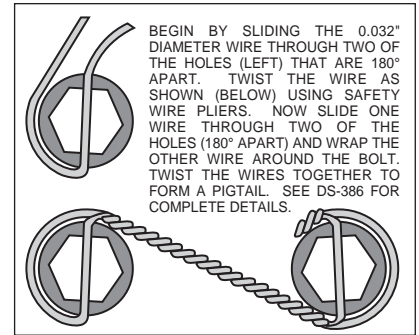

Figure 4. Safety Wire Diagram
- With the mounting ears pointing towards the rear of the vehicle, install the caliper mounting bracket (1) to the housing flange using the bolts and nuts supplied with the C-clip eliminator kit. Apply red *Loctite*® 271 to the bolt threads and torque to OEM specifications. **NOTE:** The caliper mounting brackets (1) should be located between the axle housing flange and the inner C-clip hub. Make sure the heads of the caliper mounting bracket insert nuts are FACING OUTWARD TOWARDS THE WHEEL.
- Bolt the hat (2) to the rotor (3) using lock washers (4) and bolts (5). Torque bolts (5) to 180 in-lb. Safety wire bolts (5) using standard 0.032 inch diameter stainless steel safety wire as shown in Figure 4. Please refer to Wilwood's data sheet DS-386 (available at www.wilwood.com/pdf/ds386.pdf) for complete safety wire installation instructions.
- Align the correct hole pattern in the hat (2) with the stud pattern on the axle flange. **NOTE:** Some OEM and after market axles come with stud sizes larger than 0.50" diameter. Verify stud size and have a qualified machine shop drill the hats to the correct size. Slide the hat/rotor assembly (2 and 3) over the wheel studs and against the axle flange face.
- NOTE:** Please reference the caution statement at the beginning of the assembly instructions. WITH THE BLEED SCREWS POINTING UP, mount the caliper (6) over the rotor (3) and onto the caliper mounting bracket (1) using lock washers (7) and mounting bolts (8). View the rotor through the top opening of the caliper. The rotor should be aligned in the center of the caliper. If not, adjust the caliper by using 0.032 inch shim washers (9), placing them between the caliper mounting bracket (1) and the caliper (6). Apply red *Loctite*® 271 to the mounting bolt threads (8), torque bolts to 30 ft-lb. Safety wire the caliper mounting bolts (8).
- Position the Wilwood disc brake pads (10) into the caliper (6) and fasten with cotter pin (11). Steel backing plate side of brake pad should face the caliper pistons.